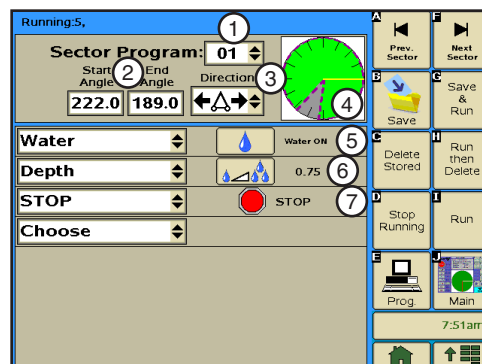

Figure 100-2 1. Sector Program Number
4. Enter the command for this sector. Refer to Figure 100-2.